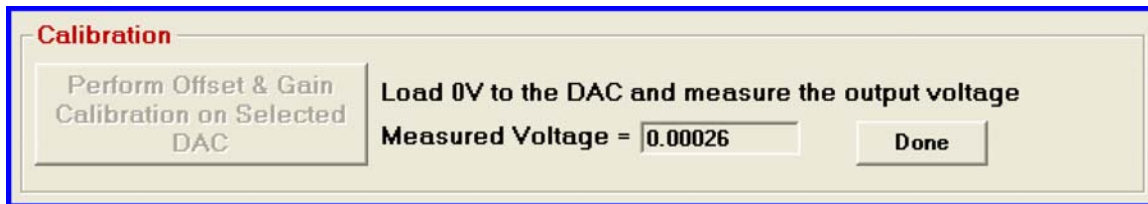

Figure 3. Calibrating for Offset Error
2. In the **Calibration** section, click the **Perform Offset & Gain Calibration on Selected DAC** button. The **Calibration** section display changes as shown in Figure 3.